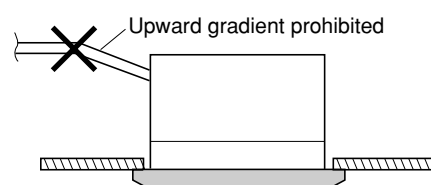

Fig. 3-45
- Do not install the pipe with an upward gradient from the connection port. This will cause the drain water to flow backward and leak when the unit is not operating. (Fig. 3-45)